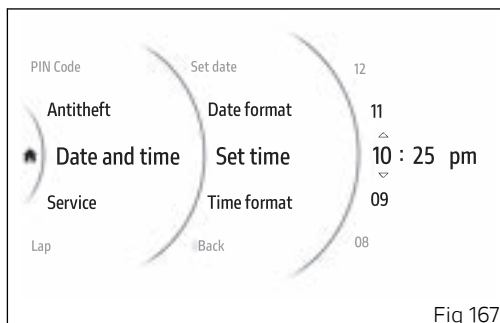

Fig 167
- Use buttons (1) and (2) from the Interactive Menu to select the Setting menu item and press ENTER (3).
- Select the Date and time item and press ENTER (3).
- Select the Set time item and press ENTER (3).
The hour number becomes selectable and is displayed with two arrows placed above and below it; the available values are also displayed (Fig 167). Use buttons (1) and (2) to scroll and select the desired value. Press ENTER (3) to confirm and move on to the number of the minutes.